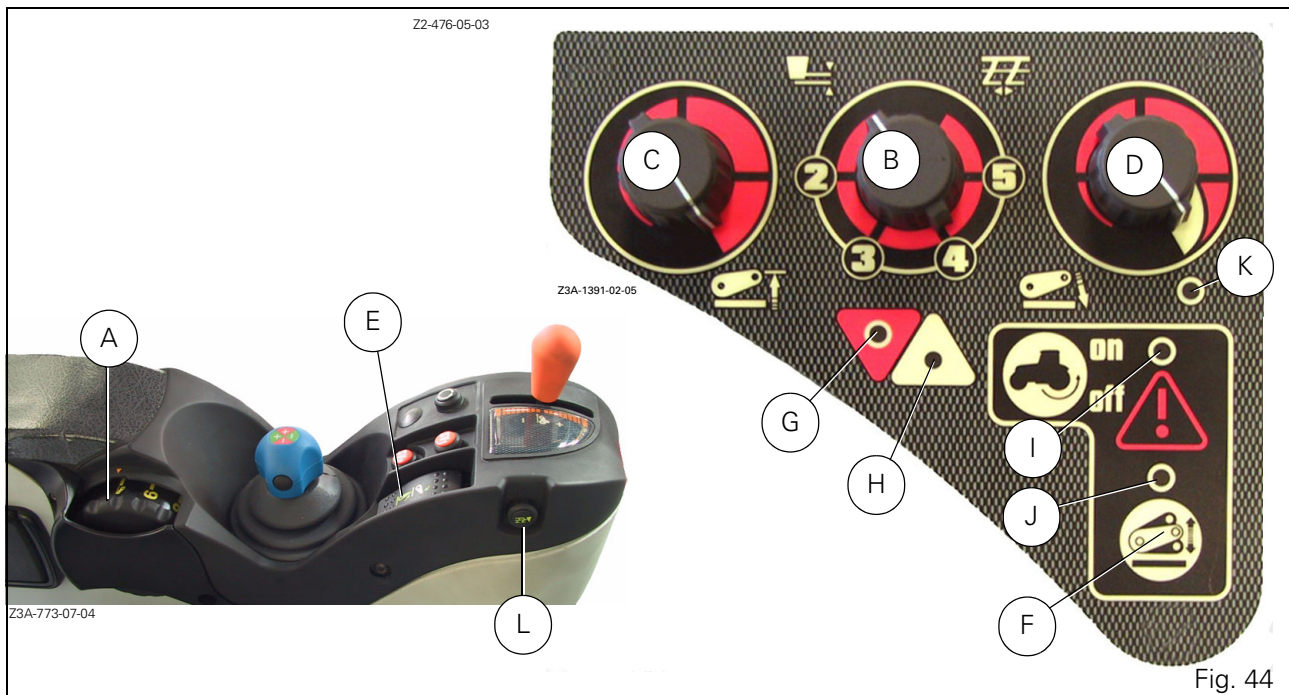

Fig. 44
- Select the minimum position with the knob (B Fig. 44).
- Adjust the maximum linkage height according to the transport implement using the height setting knob (C). Start from minimum position.
- Move the knob (D) to position 1 (padlock).
- The system operates automatically when button (F) is pressed; indicator light J comes on.
- To deactivate this function, button (F) must be pressed.